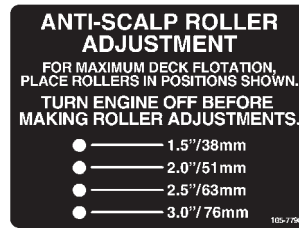

Figure 18
3. After adjusting the height-of-cut, remove the flange nut, bushing, spacer, and bolt (Fig. 18).
4. Select a hole so that the outer roller is positioned to the nearest corresponding height-of-cut desired (Fig. 18).
5. Install the outer roller, bushing, spacer, bolt, and nut (Fig. 18).